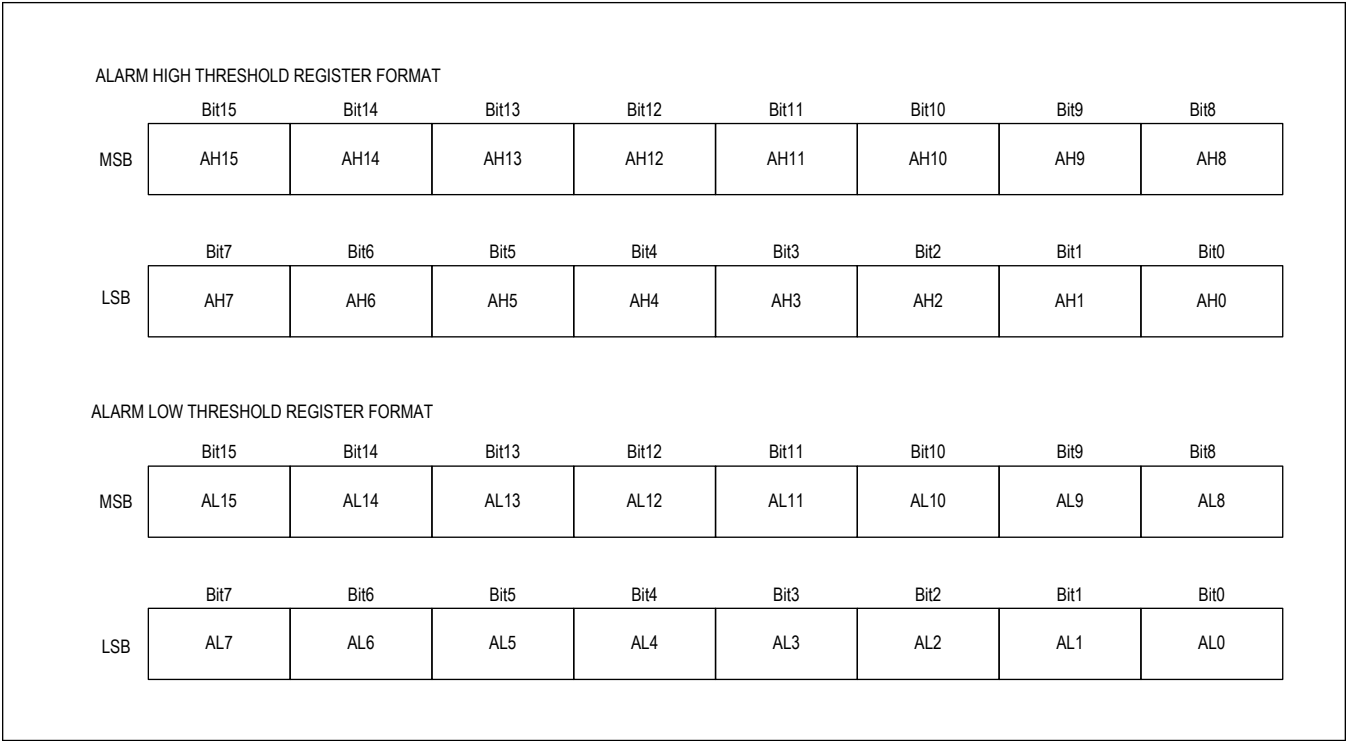

Figure 2. Alarm Threshold Register Format
After the device performs a temperature conversion, the temperature value is compared with the user-defined two's complement alarm trigger values stored in the 2-byte Alarm High and 2-byte Alarm Low registers (see Figure 2). The default value for AH is 0x7FFF (+163.835°C) and the default value for AL is 0x8000 (-163.840°C). The MSB indicates if the value is positive or negative; for positive numbers the MSB is 0 and for negative numbers the MSB is 1. The Alarm High threshold (AH) is programmed in registers ALARM_HI_MSB [0x10] and ALARM_HI_LSB [0x11]. The alarm low threshold (AL) is programmed in registers ALARM_LO_MSB [0x12] and ALARM_LO_LSB [0x13].